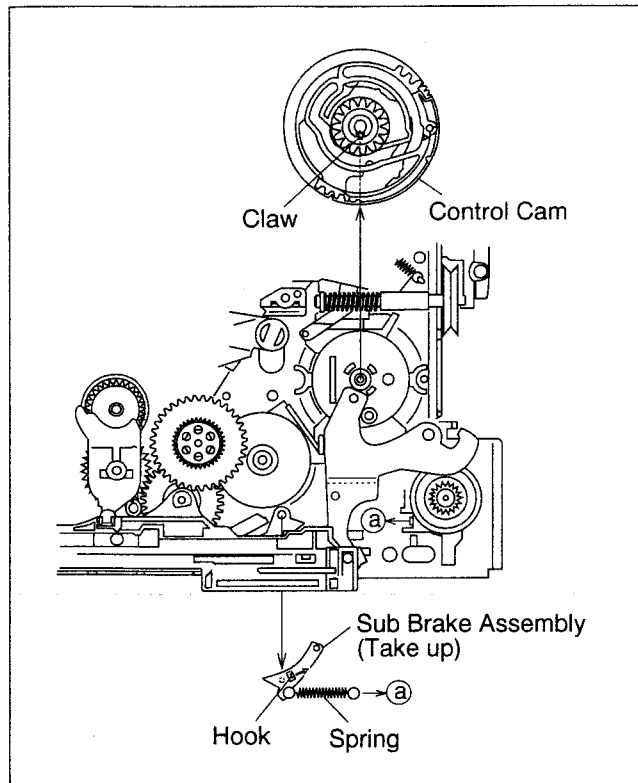

Fig.2-5-15
- (1) Remove the stator assembly and rotor assembly. (See Figs. 2.5.15 and 2.5.16.)
- (2) Loosen the screw of the collar assembly using an hexagonal wrench (1.5 mm), then remove the collar assembly.